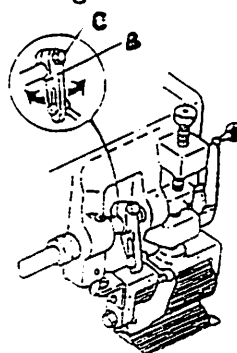

FIG 18
- c).Fine Adjustment Of Travel Of The puller (Fig 18)